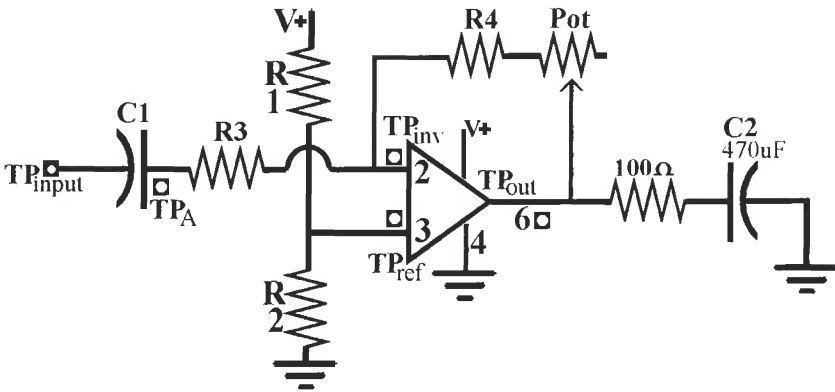

Figure L52-5
- 1. Use the setup in Figure L52-5 for collecting the following data (see Table L52-1).